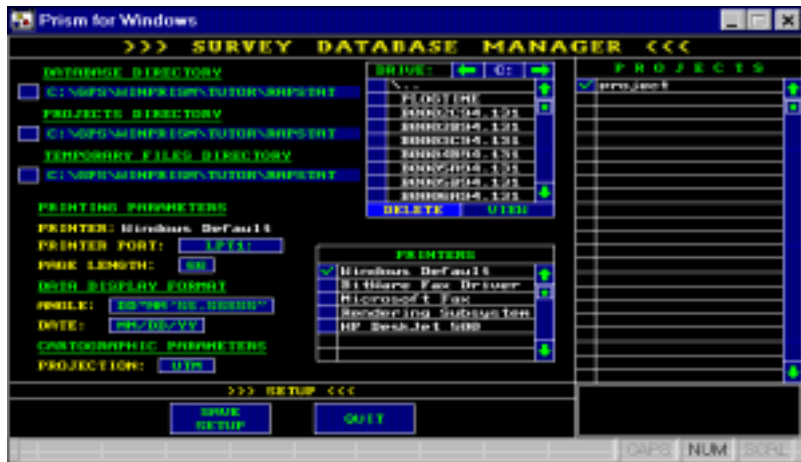

Figure 2.2: Setup Window
2. The Survey Database window opens (Figure 2.2) where you specify necessary initial parameters such as file locations and type of printer. The directories you see depend on the contents of the current directory.